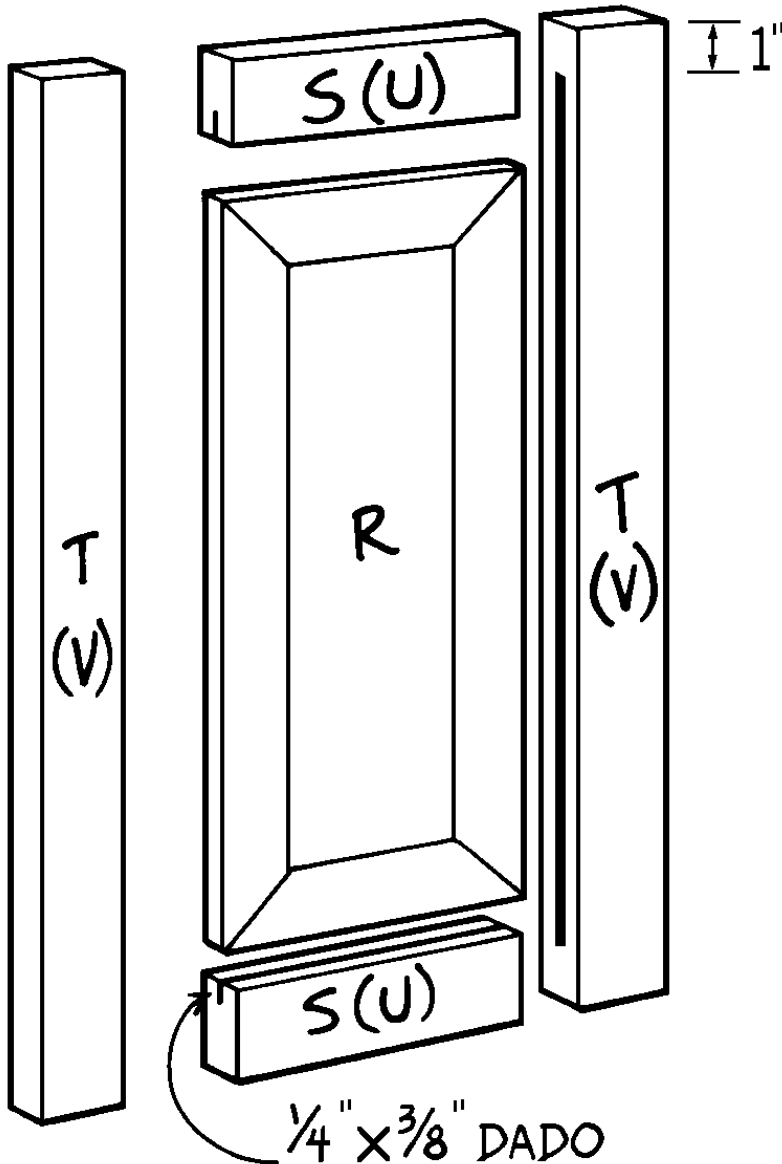

Figure 7
- Each of the two lower doors (see Figure 7) consists of a center panel that is beveled on all four edges and inserted into a frame. This is not difficult to do, but it requires a certain amount of
4. From the ripped 1 x 4 pine, cut two 8-3/4"-long lower top/bottom frame pieces (S) and two 26-7/8"-long lower side frame pieces (T).
5. Cut a dado 1/4" wide and 3/8" deep down the center inside edge of each of the four frame pieces (S and T) to accommodate the center panel (R). If you don't want your dados to show (what would the neighbors think?) on the outer edges of the doors, then start the dado 1" from one end of each lower side frame piece (T) and stop it 1" from the other end.
6. Place the panel (R) into the dados cut in the frame pieces to make sure that all of the pieces fit together properly. An optional step at this point is to rout a decorative design into the inside edges of the frame pieces. Because this is difficult to do with the panel installed, simply clamp the frame together securely and rout the inside edges. Then place the panel (R) inside the frame.
7. As shown in *Figure 7*, the top and bottom frame pieces (S) fit between the side frame pieces (T). Glue and clamp the frame pieces together, with the panel (R) in place but not glued into the dados. Fasten the frame together by inserting 8d finishing nails at all four corners.
2. From the ripped pine, cut two 8-3/4"-long upper top/bottom frame pieces, (U) and two 36-3/8"-long upper side frame pieces (V).
3. Glue and clamp the four frame pieces (U and V) together as shown in *Figure 7*, making sure to fit the upper top/bottom frame pieces (U) between the upper side frame pieces (V). Then drive 8d finishing nails into all four corners of the frame.